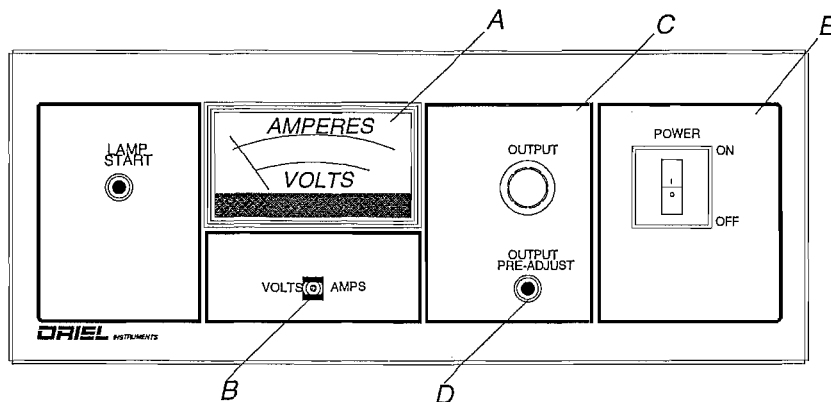

Figure 1 68806 Front Panel Layout
Please refer to Figure 1 for the described equipment features.
- The **analog meter**, (A in Figure 1), is scaled to display the output **voltage**, **current**, and **wattage**. *Keep in mind that the meter monitors the output voltage of the supply not the load, and that the output power is always displayed by the meter. The one exception is when the preadjust switch is pressed and operating current is displayed.* The **select switch**, (B in Figure 1), enables you to momentarily view the output **voltage** or **current** by pressing it left or right, respectively.
A ten turn **potentiometer**, (C in Figure 1), is used to provide a precise means of output current adjustment. A shaft lock is mounted with this knob to lock in a setting if a readjustment from a previous current setting is not desired. When the **preadjust switch** (D, Figure 1) is pressed, the meter will display the value of the output current that will be delivered to the lamp after lamp start.
This is the AC mains power switch (E in Figure 1). In the "ON" position AC power will be switched into the main circuitry of the power supply, and an integral indicator lamp will glow to indicate that the power supply is on. The power switch is also a circuit breaker which will open both of the AC lines to the internal circuitry in case of a fault within the unit.